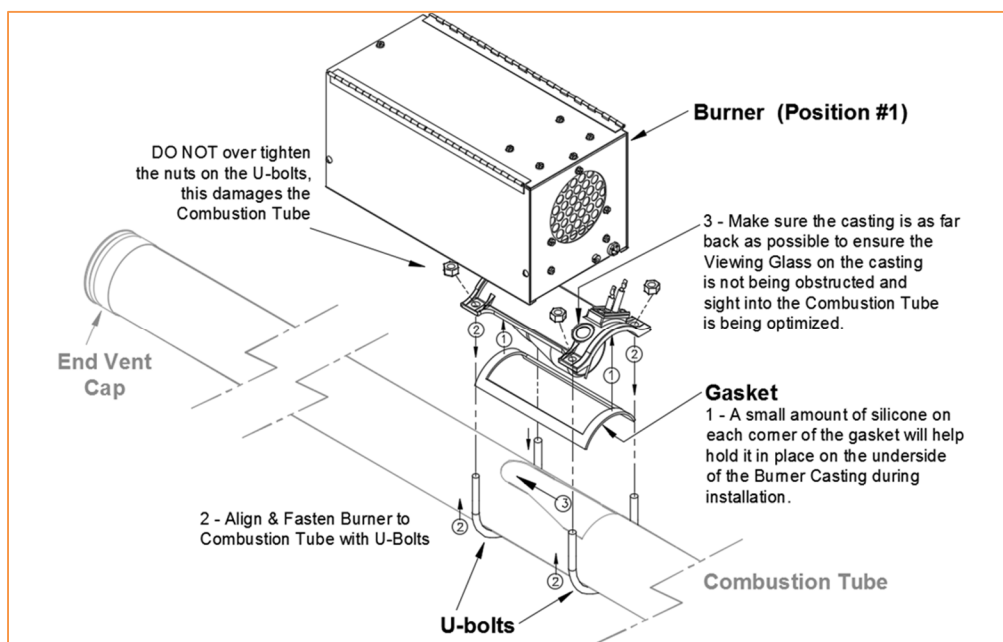

Figure 19: Burner Installation
4. Install each Burner. Ensure the gasket is properly in place, a small amount of contact cement will hold the gasket. Position the Burner completely to the back of the installation slot as shown in Figure 19. Ensure that little or no Tube is in view through the Viewing Glass/Window.